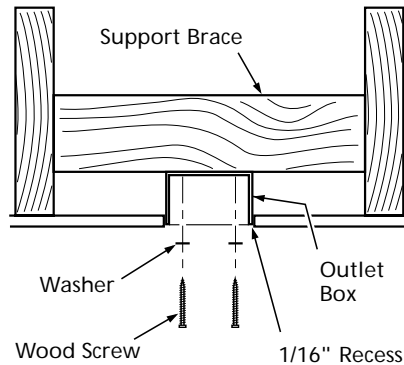

Figure 2d - Installing Outlet Box
4. Attach the outlet box directly to the support brace or joist with two #8 x 1-1/2" wood screws and washers. The bottom of the outlet box must be recessed a minimum of 1/16" into the ceiling as shown in Figure 2d.